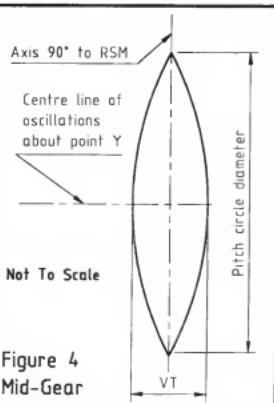
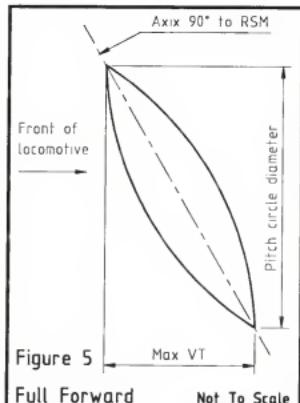

Figure 4
Figure 5
and $F^1 M^1 R^1$ to select full forward or full reverse. (Notching-up selects a position somewhere in between). When in motion, radius rod (RR) is driven by the eccentric pin (EP) which follows the pitch circle created by the return crank. RR in turn drives the anchor link (AL), which is pivoted at M, to create the arc UXD as shown in Figure 3. Valve travel is derived from the valve rod (VR) positioned on the radius rod at Y which converts the oscillating movement into reciprocating movement. The distance of Y from X on the radius rod determines the lap and lead. When in mid-gear, RSM must be parallel to the valve spindle (VS) and as with Walshaerts valve gear, the valve travel is equivalent to lap and lead. The movement of point Y in mid-gear is approximately oval shaped (Figure 4) and when in full gear the oval shaped movement of point Y becomes elongated to impart the required valve travel. Figures 5 and 6 show the